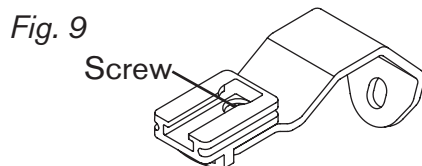

Fig. 9
- Regularly check that the fixing screw (fig. 9) on the bracket is tight